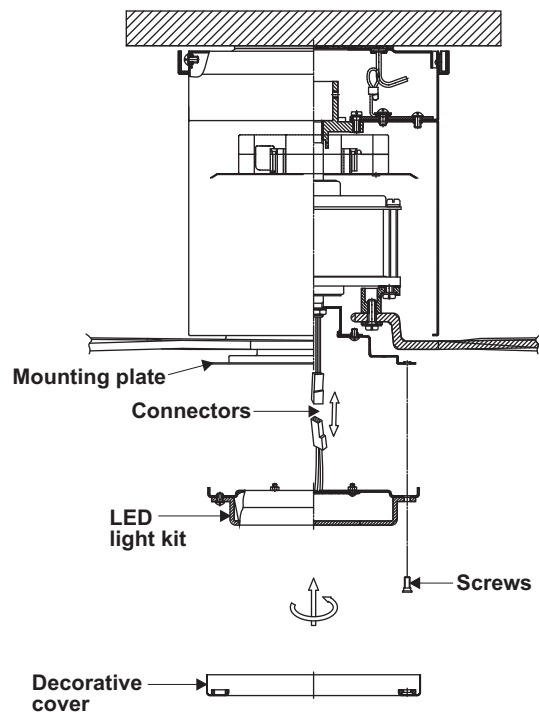

Figure 14
1. Raise and hold the LED light kit close to the mounting plate and proceed to do the wire connections. Make the 2-pin wire connections: (Fig. 14)
2. Tuck the connections neatly into the mounting plate and install the LED light kit to the mounting plate using the two screws provided. (Fig. 14)
3. Raise decorative cover up against the LED light kit and secure it to the fan by turning the decorative cover clockwise until snug. DO NOT OVERTIGHTEN. (Fig. 14)